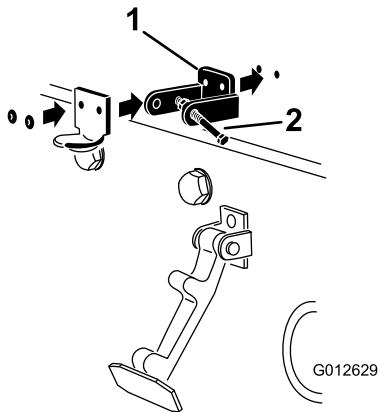

Figure 16
**Note:** The lock bracket must be against the hood (Figure 16). Do not remove the bolt and nut from the lock-bracket arm.
5. Rivet the brackets and the washers to the hood (Figure 16).